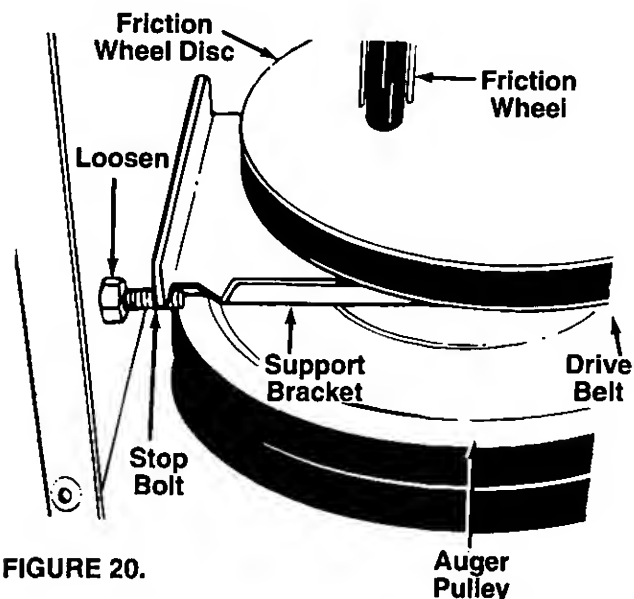

FIGURE 20.
3. Using a 7/16" wrench, loosen the nut on the stop bolt until the support bracket rests on the auger pulley. See figure 20.
4. Slip belt between friction wheel and friction wheel disc. See figure 20. Remove and replace belt. Reassemble following the instructions in reverse order.
**NOTE:** The support bracket must rest on the stop bolt after the new belt has been assembled. See figure 20.